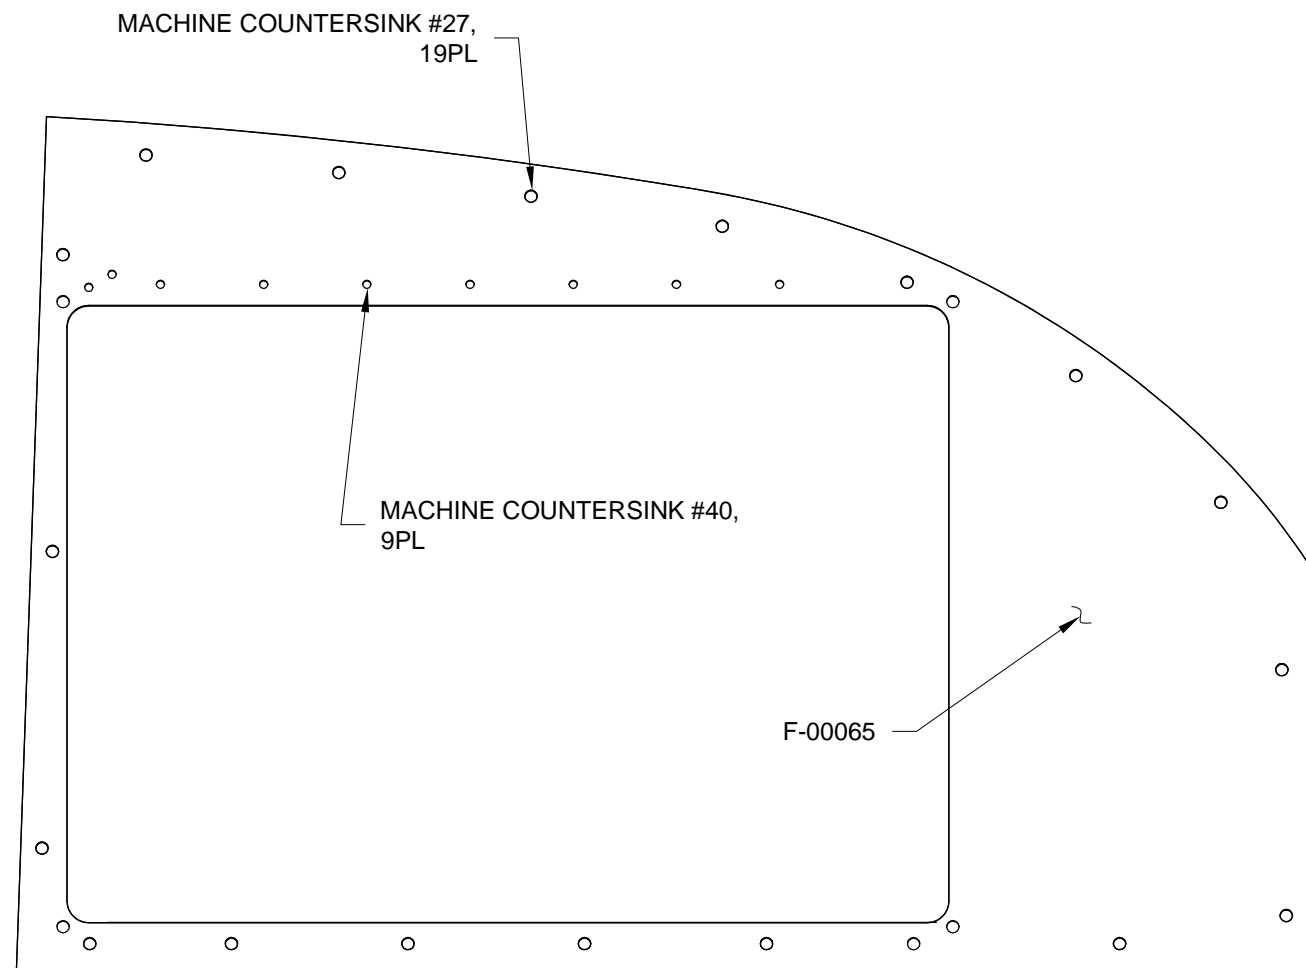

FIGURE 1: PREPARING THE RV-12 PANEL (COPILOT)
Step 1: Machine countersink all the #27 holes on the copilot side of the F-00065 RV-12 Panel (Copilot) except for the four holes at the corners of the G3X cutout. See Figure 1.
Machine countersink all the #40 holes on the copilot side of the RV-12 panel (copilot). See Figure 1.